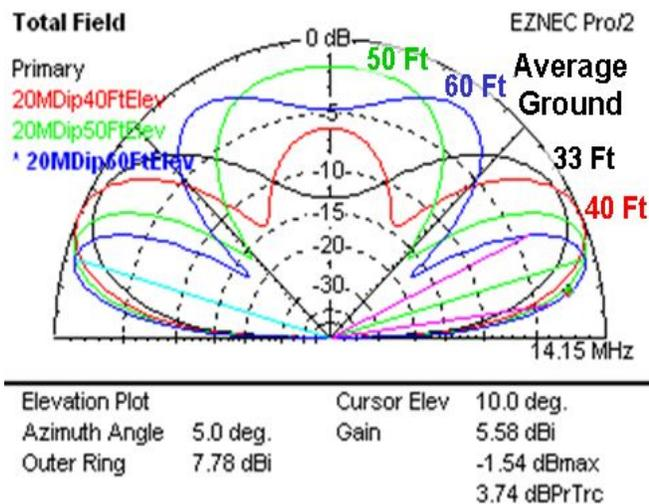

Fig 42 –20M Yagi vs Mounting Height
**Lobing of High Horizontal Antennas** Fig 42 shows how the vertical pattern of a 20M dipole varies with mounting height. Lobing begins as the antenna is raised above about  $\lambda/2$  (33 ft on 20M). Lobes appear first at higher vertical angles; nulls move down as the antenna is raised, and a second null develops at a higher angle. Thus, as we raise the antenna we can optimize it for low angles, but degrade performance at higher angles. Propagation to any given station varies with time; at one time, the path may be at a high vertical angle; an hour later it may be at a low angle. Note that while this data is plotted for a dipole, any horizontally polarized antenna will exhibit the same effects.